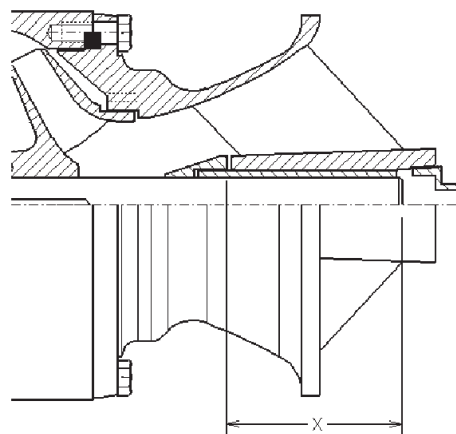

Figure 21
2. If the sand collar is not assembled to the shaft, install the sand collar. The sand collar is attached to the shaft with a shrink fit. The larger diameter of the counterbore of the sand collar goes toward the suction bell bearing. Heat the sand collar until it slips over the shaft and quickly position it so that the bottom of the sand collar is set according to the "X" dimension, before it cools. See Figure 21. See Table 3 for the "X" dimensions. Slide the plain end of the pump shaft into the suction bowl/bell bearing until the sand collar rests against the suction bowl/bell.